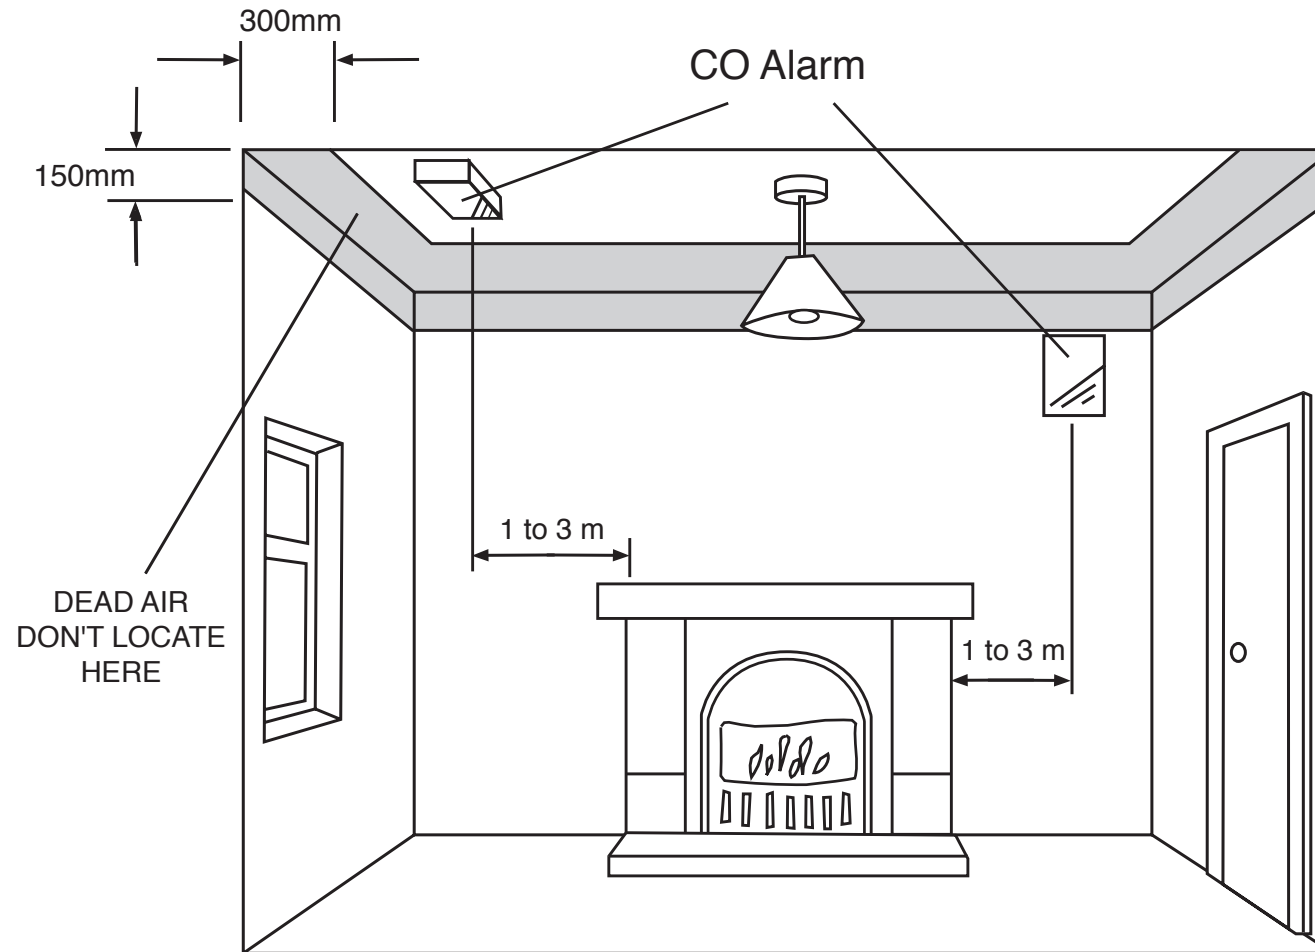

Figure 1. Location in room with a fuel burning appliance
3.3 IF LOCATING THE CO ALARM IN A ROOM WITH A FUEL BURNING APPLIANCE (see *Figure 1*)
The unit can be tested with CO by using one of the kits that comes with CO either in a glass phial or aerosol can. Follow the instructions on the kit but be sure to press the Test/Hush button to speed up the CO sampling **directly** after you expose the unit to the CO. It is best if possible to inject the CO gas into the gas entry holes (see *Figure 1*). When it senses the CO it will give 3 beeps and the red light will flash as per Table B. It then automatically resets to normal mode. (If unit fails to respond, press the Test/Hush button again as gas can take some seconds to enter sensor).